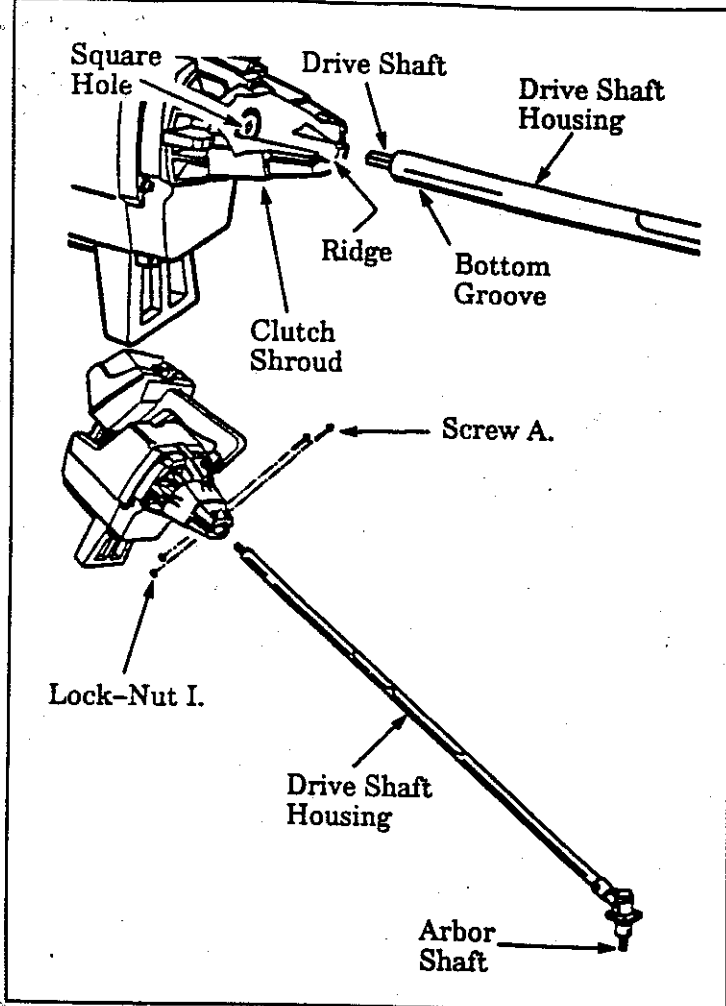

Figure 2
1. DRIVE SHAFT HOUSING (Figure 2)
- a. Place the two Screws "A." into the holes on the Clutch Shroud as shown in Figure 2.
- e. Align the bottom groove on the Drive Shaft Housing with the ridge on the inner, lower wall of the Clutch Shroud opening. Figure 2.
- h. Tighten Screws "A." alternately until secure. Figure 2.